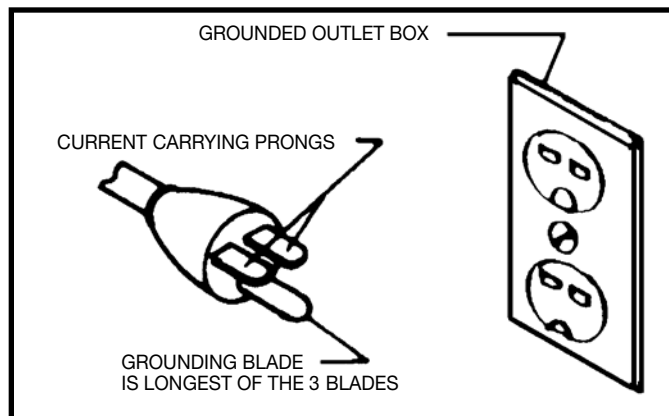

Fig. 3
If the tool is intended for use on a circuit that has an outlet that looks like the one illustrated in Fig. 3, the tool will have a grounding plug that looks like the plug illustrated in Fig. 3. Make sure the tool is connected to an outlet having the same configuration as the plug. No adapter is available or should be used with this tool. If the tool must be reconnected for use on a different type of electric circuit, the reconnection should be made by qualified service personnel; and after reconnection, the tool should comply with all local codes and ordinances.
- Replace the 120 volt plug (supplied with the motor) with a 240 volt plug that has two flat, current-carrying prongs, and one round or "U" shaped ground prong. (See Fig. 3) Use this plug **ONLY** with the proper mating 3-conductor grounded receptacle (See Fig. 3).